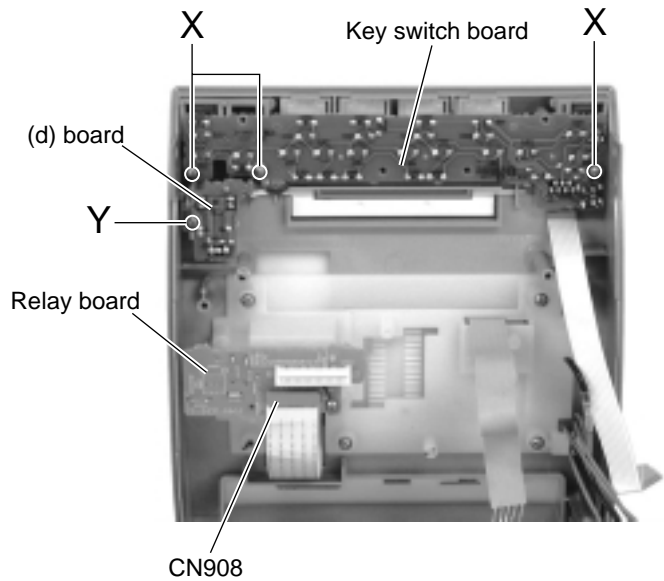

Fig.32
■ Removing the key switch board / (d) board (See Fig.32 and 33)
(See Fig.32 and 34 to 37)**